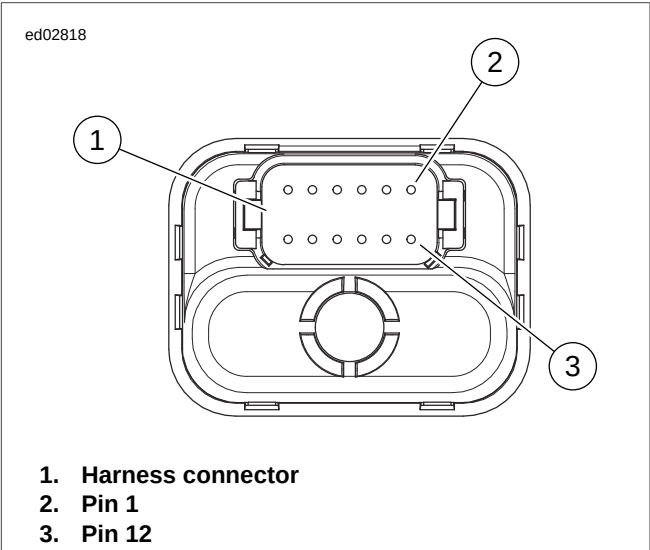

Figure E-14. TSM/TSSM Connector [30A]
3. See Figure E-14. Depress latches on harness connector [30B] and remove from TSM/TSSM connector [30A].
- a. See Figure E-14. Depress latches and detach gray BREAKOUT BOX (Part No. HD-42682) socket connector from TSM/TSSM connector [30A] (1).